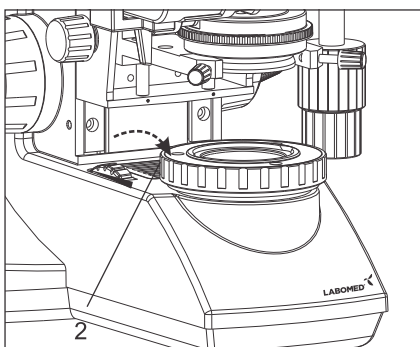

Fig. 14
2. Rotating the light intensity adjustment knob (Fig. 14) in the direction of the arrow increases brightness and rotating knob in the opposite direction decreases brightness. The intensity bar next to the knob indicates the direction of intensity level.